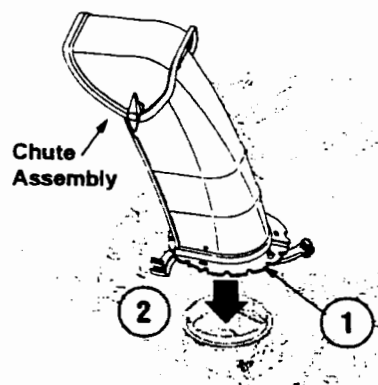

Figure 3
2. Place the chute assembly on the lip of the chute adapter. See Figure 3.